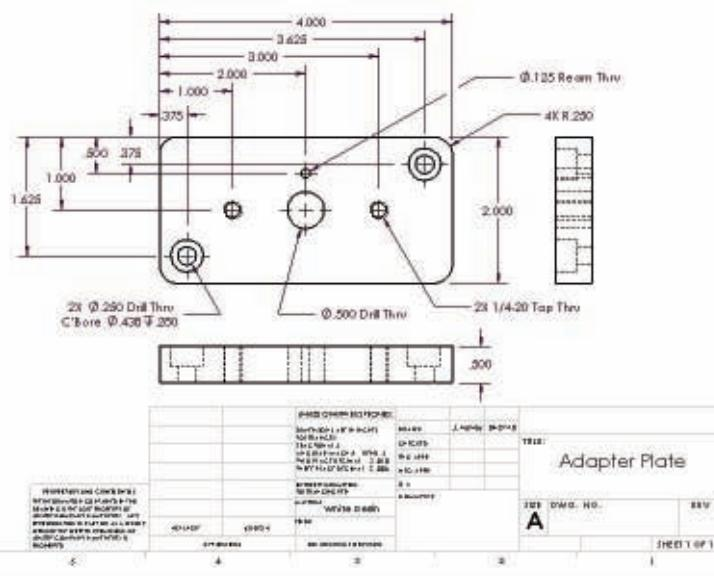

Figure 8-1 Adapter plate drawing.
2. Writing programs manually is a good way to become familiar with G-code. (see Fig. 8-1)